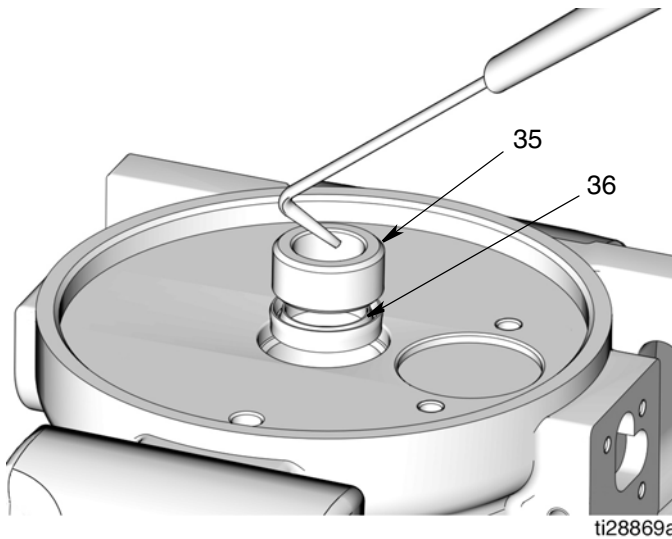

FIG. 25
22. Use a pick to remove the bushing (35) and u-cup seal (36) (FIG. 25).